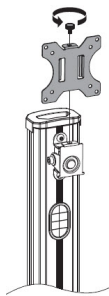

Figure 8
1. Remove the **Thumbscrew** from the top of the **VESA Mount (H)**. Save this **Thumbscrew** for a future installation step. (Figure 8)
2. Slide the **VESA Plate** up and off of the **VESA Mount (H)**.